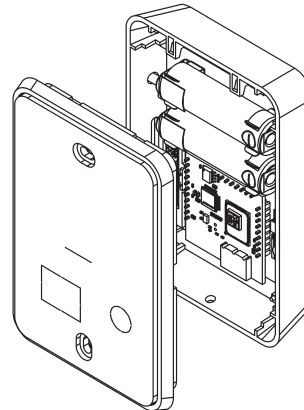

Fig. 4: Cover removed from base plate on battery powered unit
1. **Cover Removal:** Remove the cover from the base plate by turning in the cover lockdown screw with a 1/16” Allen wrench (as described in the Mounting Section) until the cover can be removed (Fig 4).